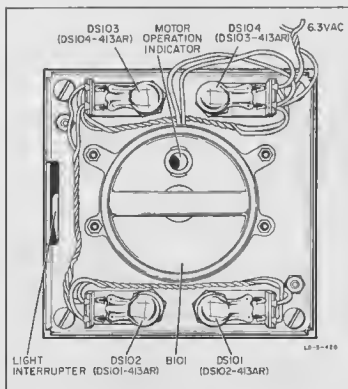

Figure 5-1. A103, Chopper Assembly
5-13. Before the modulator or demodulator can be checked, it must be ascertained that the chopper assembly, A103, is functioning properly. Refer to figure 5-1 for location of parts in the following steps. Proceed as follows:
- Remove DS103 (figure 5-1) from chopper assembly A103.